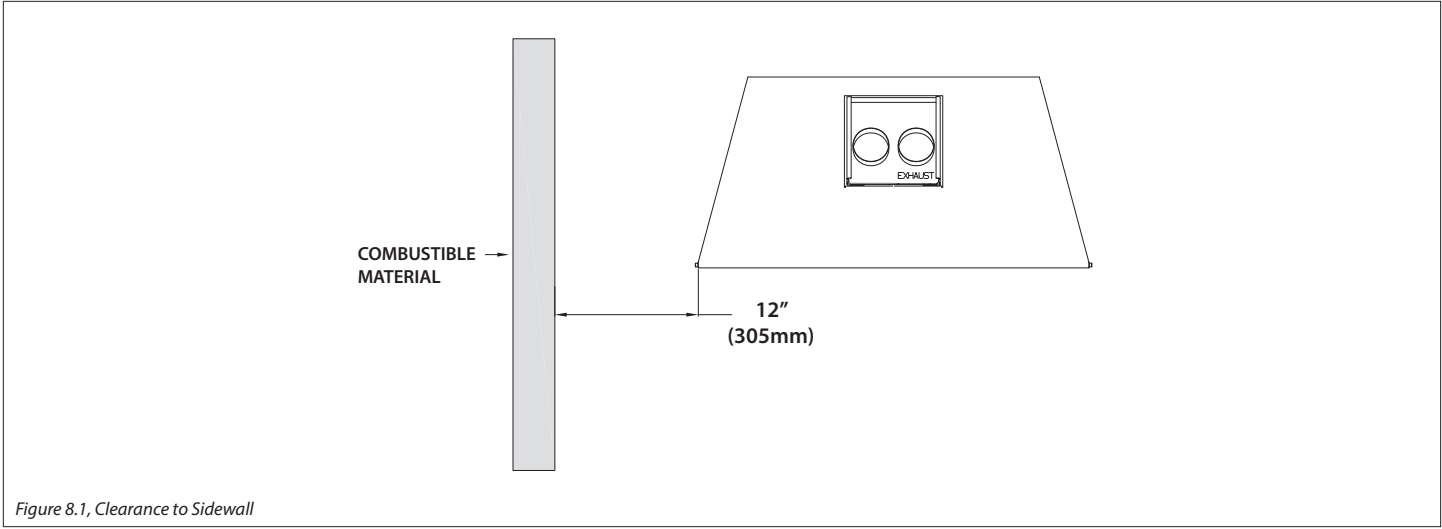

Figure 8.1, Clearance to Sidewall
- The adjacent sidewall minimum clearance is 12" (305mm) from the appliance sides (Fig 8.1).